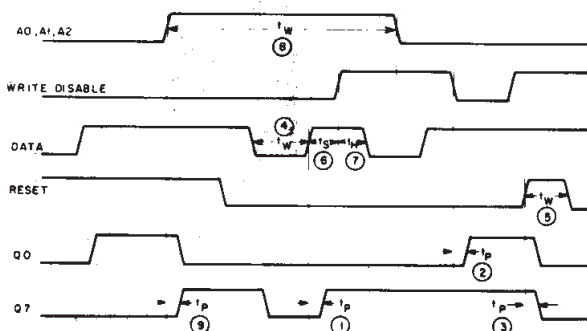

Fig. 15 — Master timing diagram.
| CHARACTERISTIC | SEE FIG.15* | V _{DD} (V) | LIMITS ALL PACKAGE TYPES | | UNITS |